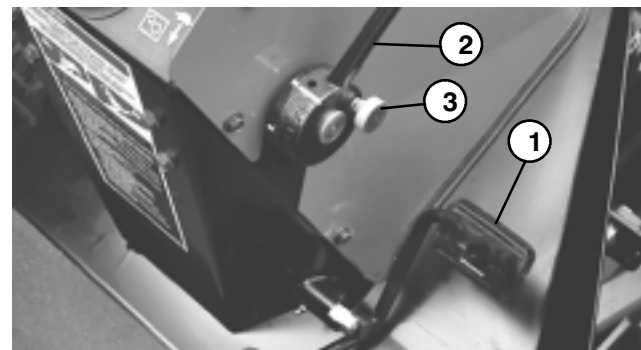

Figure 13
Traction Pedal (Fig. 13) – Controls forward and reverse operation. Depress top of pedal to move forward and bottom to move backward. Ground speed depends on how far pedal is depressed. For no load, maximum ground speed, fully depress pedal while throttle is in FAST. For maximum power under load or when going uphill, keep engine rpm high by having throttle in FAST and traction pedal partially engaged. If engine rpm begins to decrease due to load, gradually reduce traction pedal pressure until engine speed is increased.
Axle Shift Lever (Fig.13) – Located on right side of console, lever selects front drive mode. Pull out lockout knob, move lever rearward for mowing operation and forward for transport operation, then release knob to lock selection. Lever must be in LO position to mow. Middle position (N) is for towing.